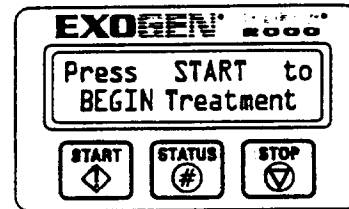

Fig. E.6.B
- f. Press the “Start (◊)” button and the display will activate. The system will automatically perform a self-test of all operations and functions. The display will indicate “SAFHS Model 2000 Self Test” (Fig. E.6.A) for approximately 2 seconds and will be followed by a display reading “Press START to BEGIN Treatment” which will flash on and off for 5 seconds (Fig. E.6.B). The “Press START to BEGIN Treatment” display will alternate with “Attention: 12 hours have not elapsed” during the five second period if your last treatment period was less than 12 hours from this treatment.